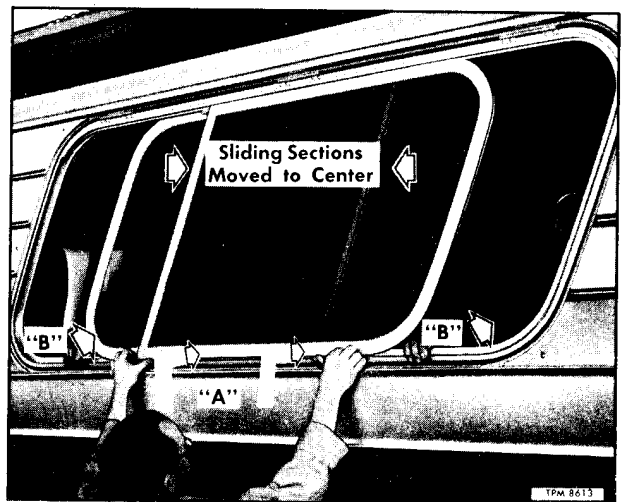

Figure 9—Installing Long Side Window
3. Referring to figure 9, slide front and rear sections to center, then raise bottom of sash at point "A" and then let weight of window assembly rest on body sill. Inside of coach, at points "B," pull inward evenly to raise bottom of window up over spring keepers to installed position.